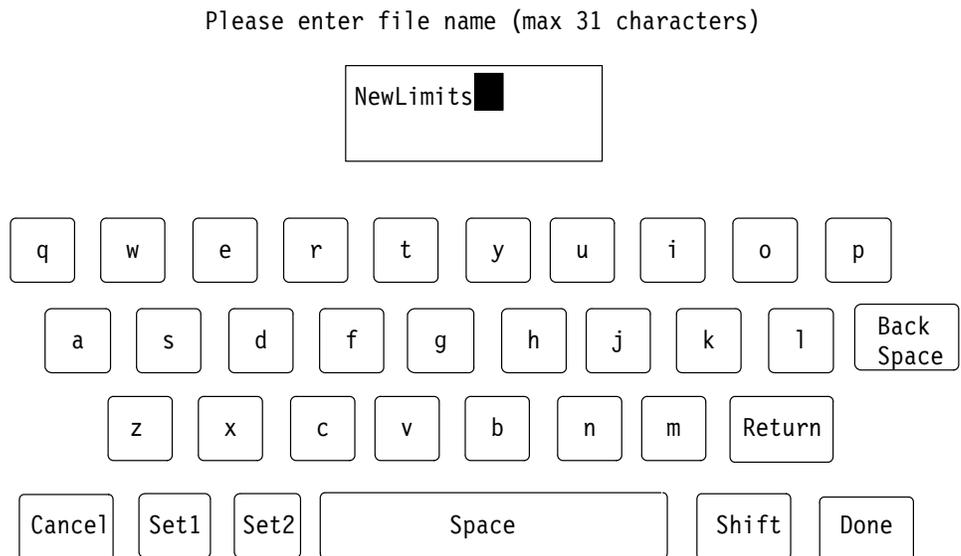

Figure 3: File naming keyboard
- f. Touch the soft key of the file you want to use as a template (for example, System Default). The screen displays a keyboard that you can use to type a name for your new file. See Figure 3.
- f. Touch the soft key of the file that you want to use as a template (for example, System Default). The screen displays a keyboard that you can use to type a name for your new file. See Figure 3.